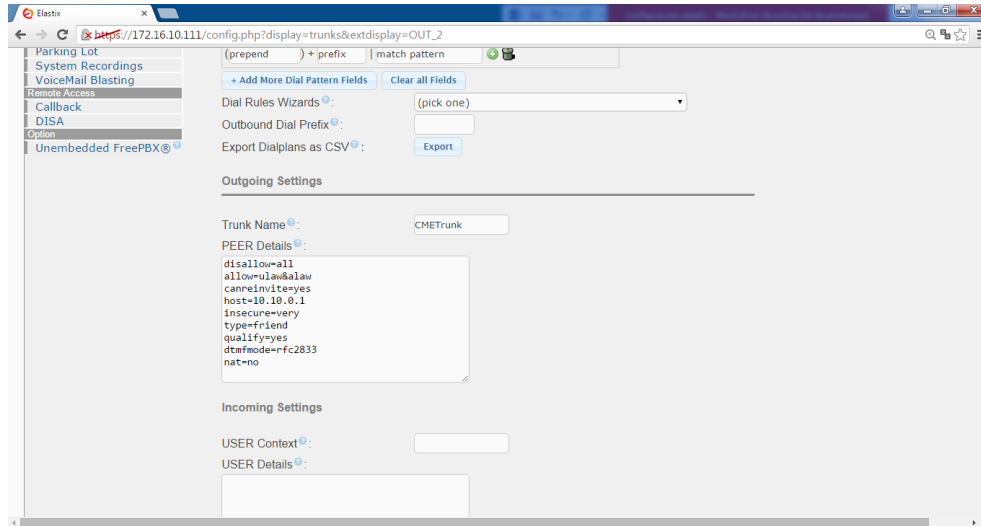

Figura 3.20 Outgoing Settings, Trunk Name, Peer Details .
3. Configurar Outgoing Settings, Trunk Name, Peer Details ver Figura 3.20 .